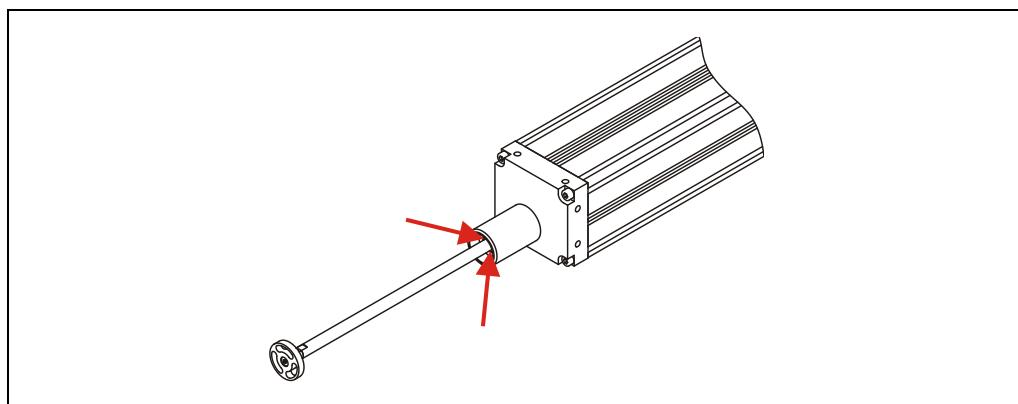

Figure 3: Eccentric rod sealing ring
- Protect measuring system against penetrating liquids, splashing water must not be pointed directly towards the eccentric rod sealing ring, see Figure 3.
- If the mounting adapter **(A)** is screwed in or out, the torque may not be transferred to the eccentric rod **(B)**. In case of mounting the eccentric rod must be held in place therefore with a second open-end wrench, see fig. 2. In addition the max. vertical displacement of the mounting adapter is to be considered, see fig. 3.